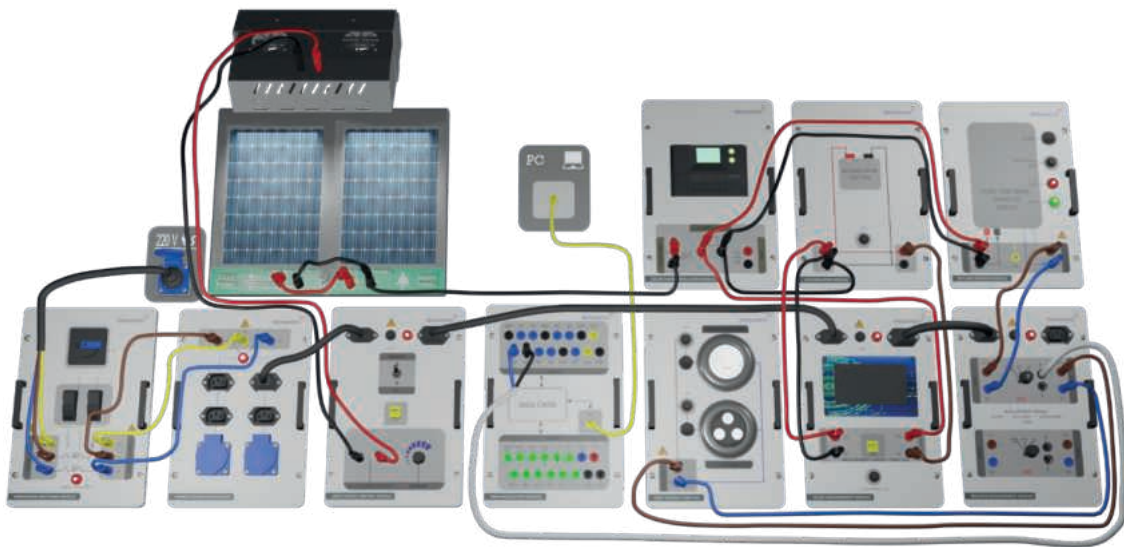

Figure-68. Installation Image of Examination of Off-Grid Inverter Output Signal with DAQ Module
1. Set up the connection as specified in Figure-68. Ensure a constant level of light in the laboratory by creating an average scenario. Be aware that any changes in the positions of lamps or curtains will impact the experimental outcomes.